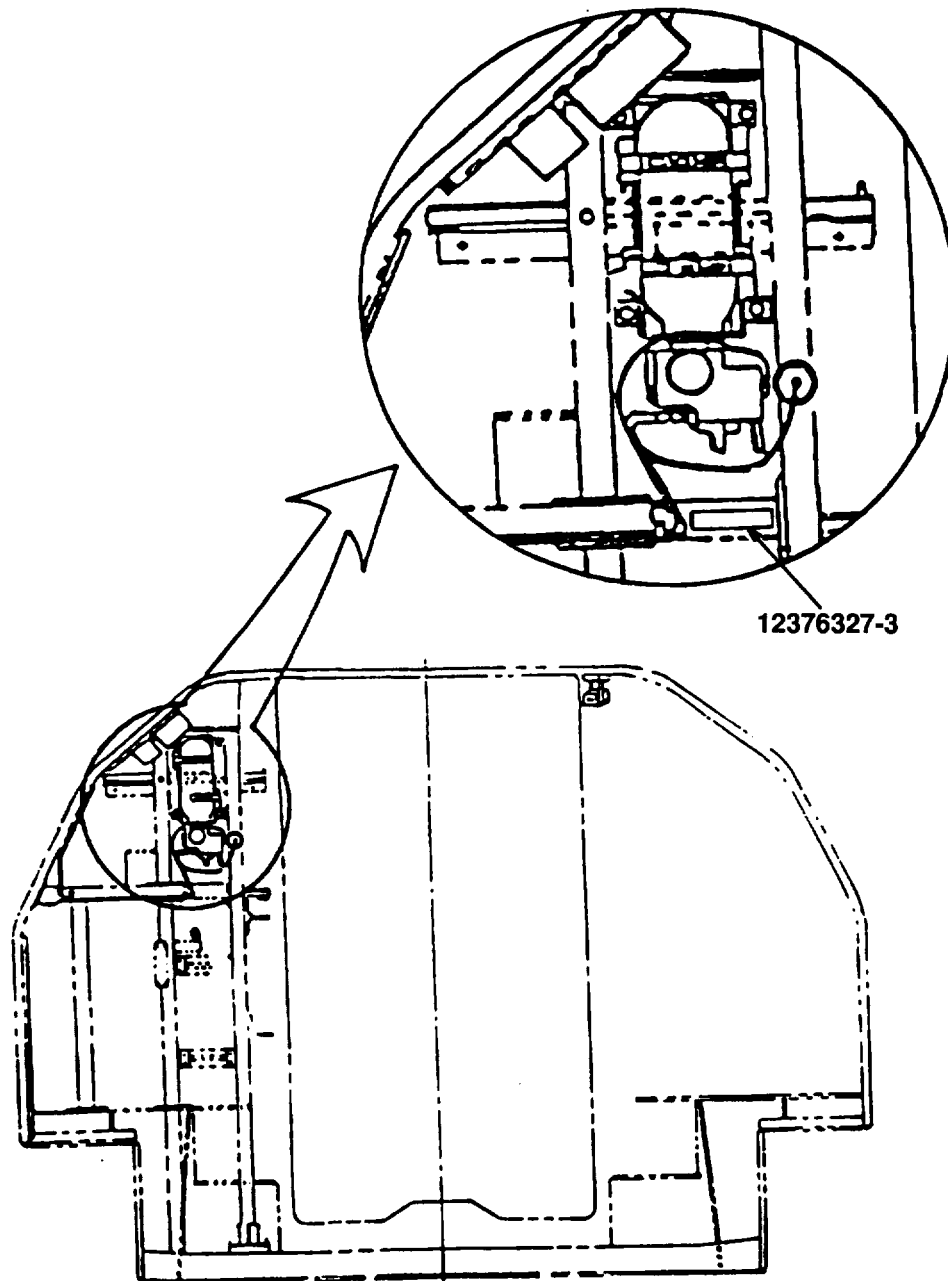

Figure 4
15. Remove the protective backing from label 12376327-3* and position as shown in Figure 4.